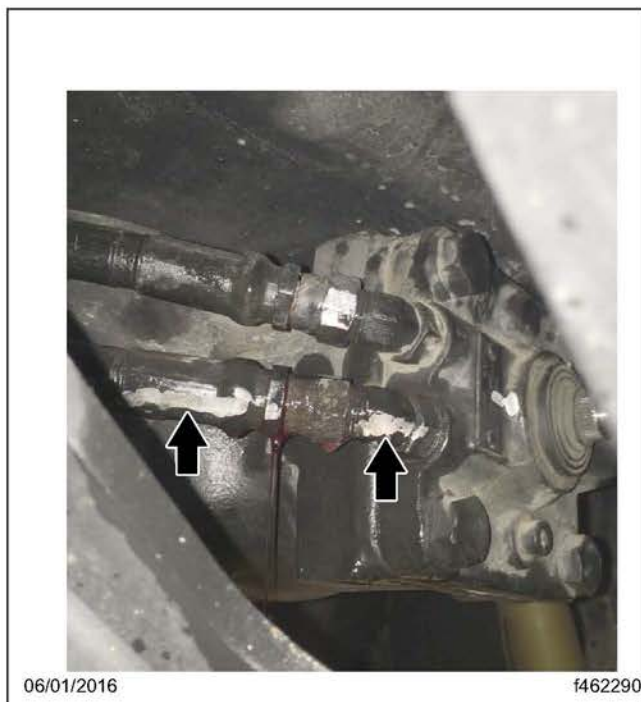

Fig. 5, Steering Gear Hydraulic Hoses
4. Mark the hydraulic hoses and the fittings at the steering gear for identification later. See Fig. 5. Disconnect the hoses and remove the fittings from the steering gear. Put the fittings aside in a clean area free of dust and debris.